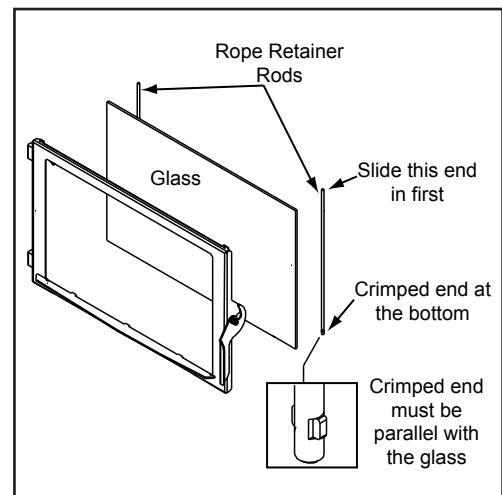

Figure 31.3
- d. Slide the retainer rod into the top hole first, and then line up the bottom crimped end with the hole in the door. The crimped end must be parallel with the glass in order to insert it into place. **Figure 31.3.**